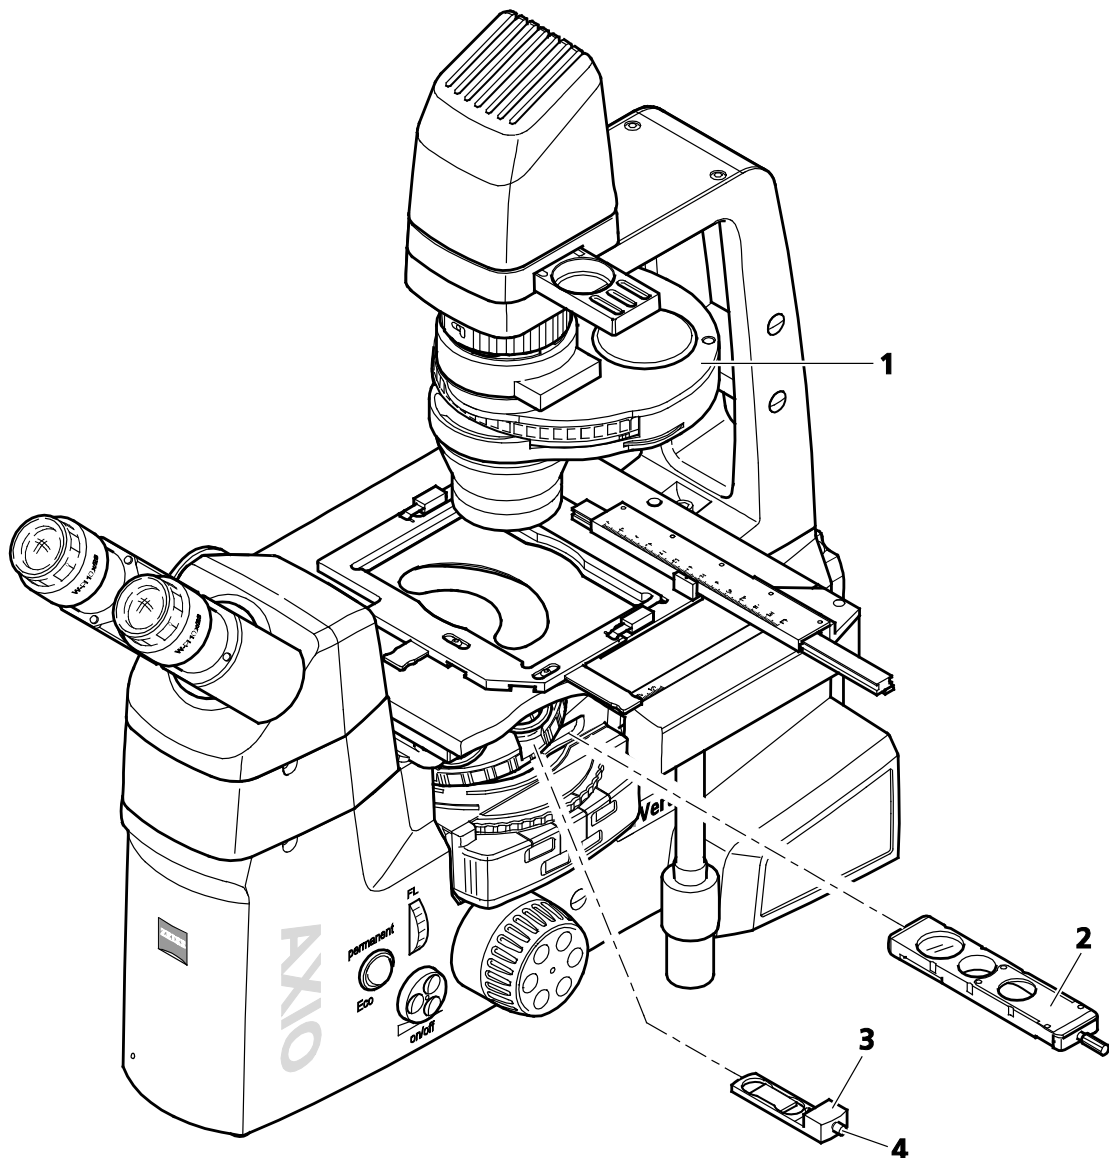

Fig. 4-8 Setting DIC
- Put the corresponding DIC slider (Fig. 4-8/3) into the slot on the nosepiece. Make sure the DIC slider snaps safely into position.
- On the condenser, (Fig. 4-8/1) rotate the proper DIC I, II or III condenser module (as identified by the stickers on the front of the condenser) into the light path.
- Put the three-position contrast slider (Fig. 4-8/2) with the analyzer position into the stand or rotate in the D P&C analyzer module on the reflector turret. Watch for the correct locking position.
- Adjust optimum contrast, using the knurled thumb screw on the DIC slider (Fig. 4-8/4). By adjusting the DIC slider symmetrically around its middle position, you can render specimen details spatially as though they were raised or recessed.
- Rotate in the PlasDIC diaphragm on the condenser (Fig. 4-8/1) with modulator disk (or move the PlasDIC position of the slider on the condenser into the light path). Brightness may have to be increased, as appropriate, when you change from bright field to PlasDIC.
- When employing a PlasDIC slider, rotate the D P&C analyzer module of the reflector turret into the light path or move the three-position contrast slider with the analyzer position (Fig. 4-8/2) into the slot under the nosepiece. If you use the PlasDIC module with the three-position contrast slider, no analyzer will be required.
- On the nosepiece, place the PlasDIC slider (Fig. 4-8/4) into the DIC slot of the objective used or move the PlasDIC module, sitting in the slider, into the light path.
- Set the contrast via the knurled thumb screw of the PlasDIC slider (Fig. 4-8/5) or of the PlasDIC module. Structures may be shown in relief or in pseudo dark field images. Relief imaging delivers the best contrast.